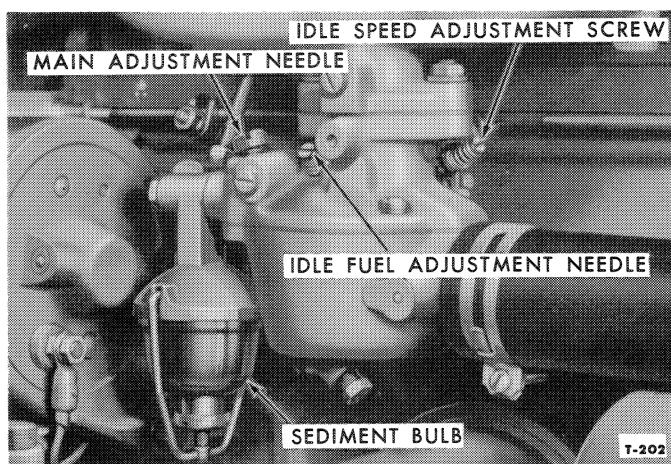

Figure 6—Carburetor Adjustments
Three adjustments are provided on the carburetor, as shown in Figure 6. They are the main adjustment needle, the idle speed adjustment screw, and the idle fuel adjustment needle. Actually, there are three factors that control the conversion of the fuel air mixture into engine power. These factors are engine compression, ignition and correct carburetor adjustment. Correct carburetor adjustment cannot be obtained, however, unless engine compression and ignition meet specifications.
- a. For the initial setting, before the engine is started, turn the idle fuel adjustment needle, Figure 6, in (clockwise) until it is seated lightly, then back it off approximately one turn. Start the engine and turn the idle fuel adjustment needle in (clockwise) until the
- b. With the hand throttle in the closed position, turn the idle speed adjustment screw, Figure 6, until the engine idle speed is 450 to 475 rpm on the Proof-Meter. On new engines it may be necessary to set the idle slightly higher to prevent stalling.
- c. The power fuel adjustment or main adjustment needle, Figure 6, initial setting, is 1-1/4 turns open, (counterclockwise).
The fuel tank is located directly under the hood, above the engine. The fuel outlet to the sediment bowl and carburetor is located in the bottom of the tank, at the center. The fuel shut-off valve is also incorporated in the fuel tank outlet fitting. The fuel line runs from the outlet fitting to the sediment bowl which is mounted on the front of the carburetor, see Figure 6.